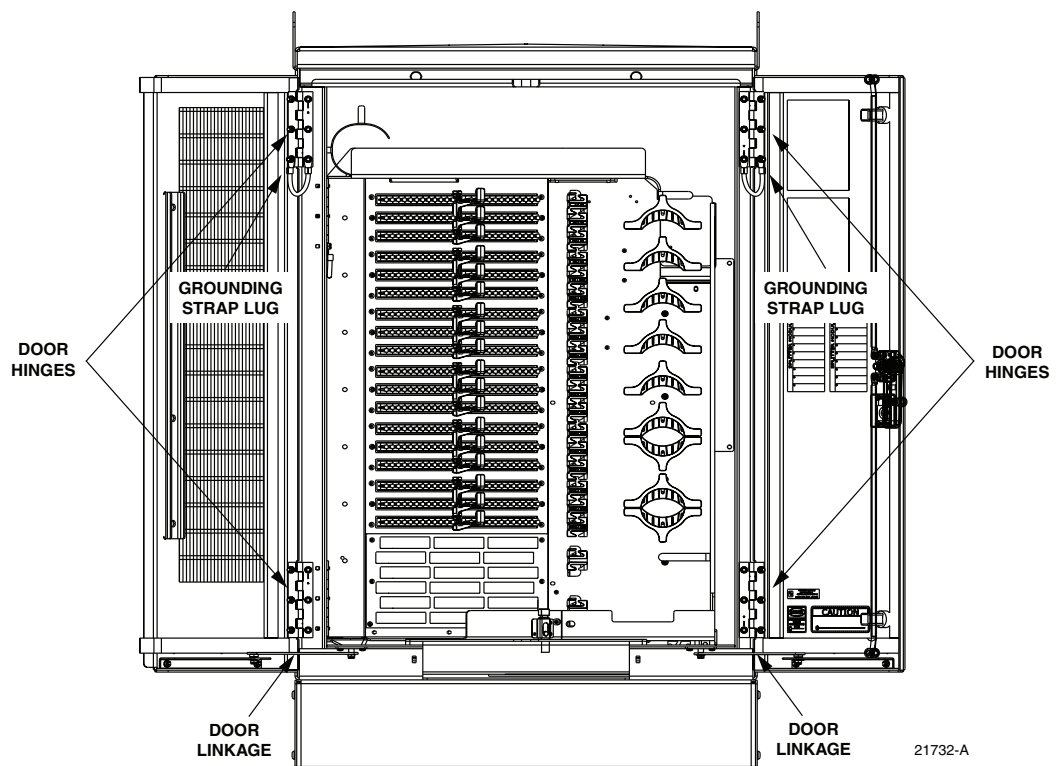

Figure 26. Door Replacement
1. Open both cabinet doors and lock them in the open position as shown in Figure 26.